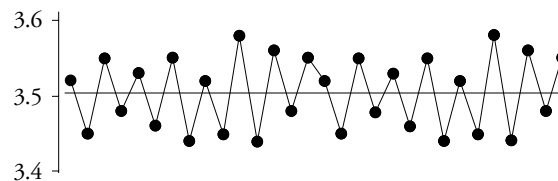

Figure 1: 30 Successive Values for Heat Sink Data
**Example One:** Take for instance the data for a heat sink. The supplier provided the data in tabular format. No part was out of specification and so no action was taken. I plotted the data as in Figure 1, showed it to the supplier quality manager, and he immediately saw that there was a pattern to the data; Down... Up... Down... Up... Down... Up.... Then the pattern reverses at Point 16. What causes this special pattern? Different shifts? Different Lines? Different Machines? Different measurement systems? Find out what causes the pattern and take action to fix it. *Plot the data. Take action.*